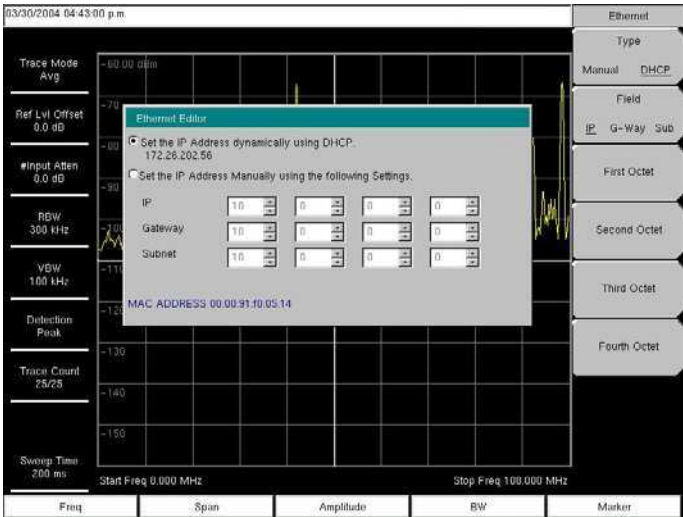

Figure 2-10. IP Address Assigned Using DHCP
To display the IP address with the instrument on, press the **Shift** key, then the **System** (8) key, then the System Options soft key and the Ethernet Config soft key. The IP address is displayed as shown in Figure 2-10.